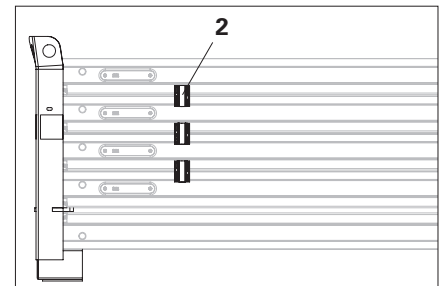

Fig. A2.04
3. Place 2x Stacking Aid MX (**2**) on each long side. (Fig. A2.04)